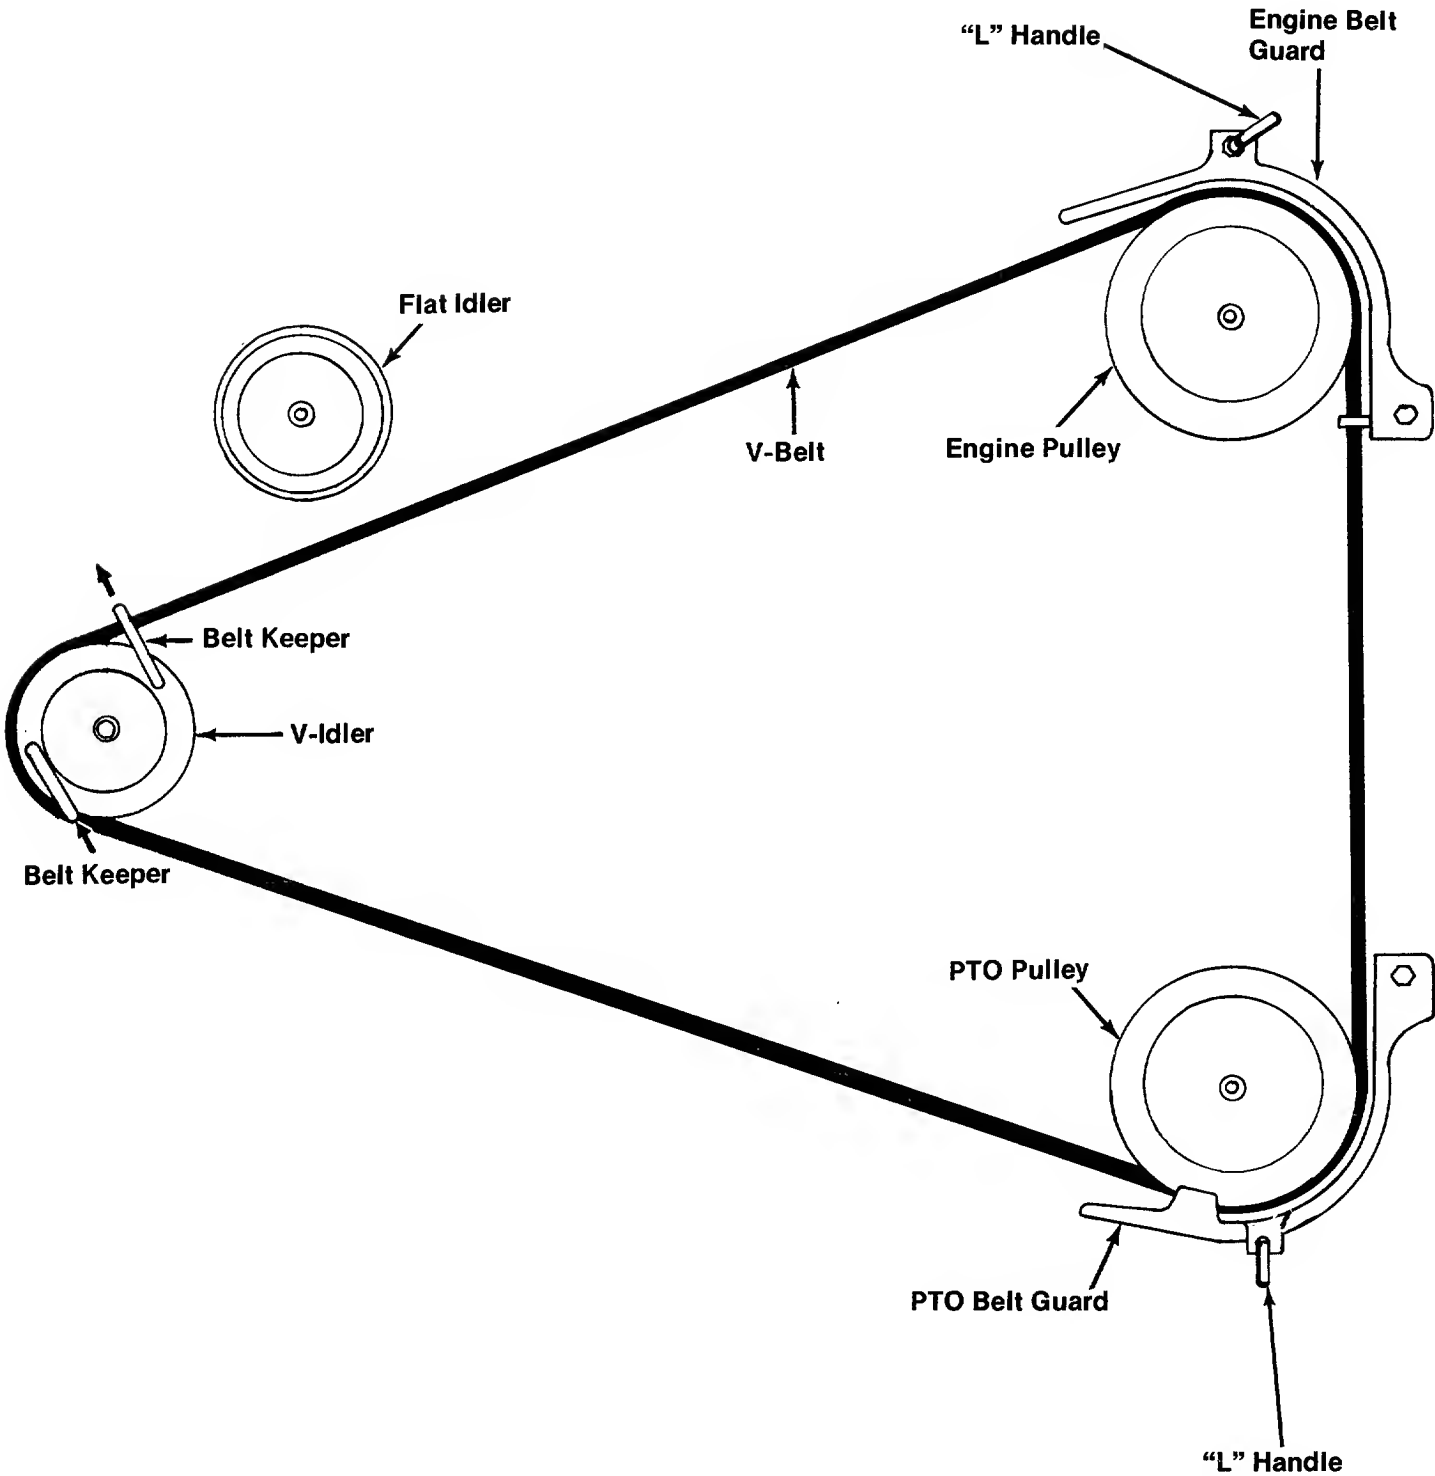

FIGURE 20
1. Unscrew the "L" handle on the PTO belt guard and pivot the PTO belt guard away from the PTO pulley. See figure 20.